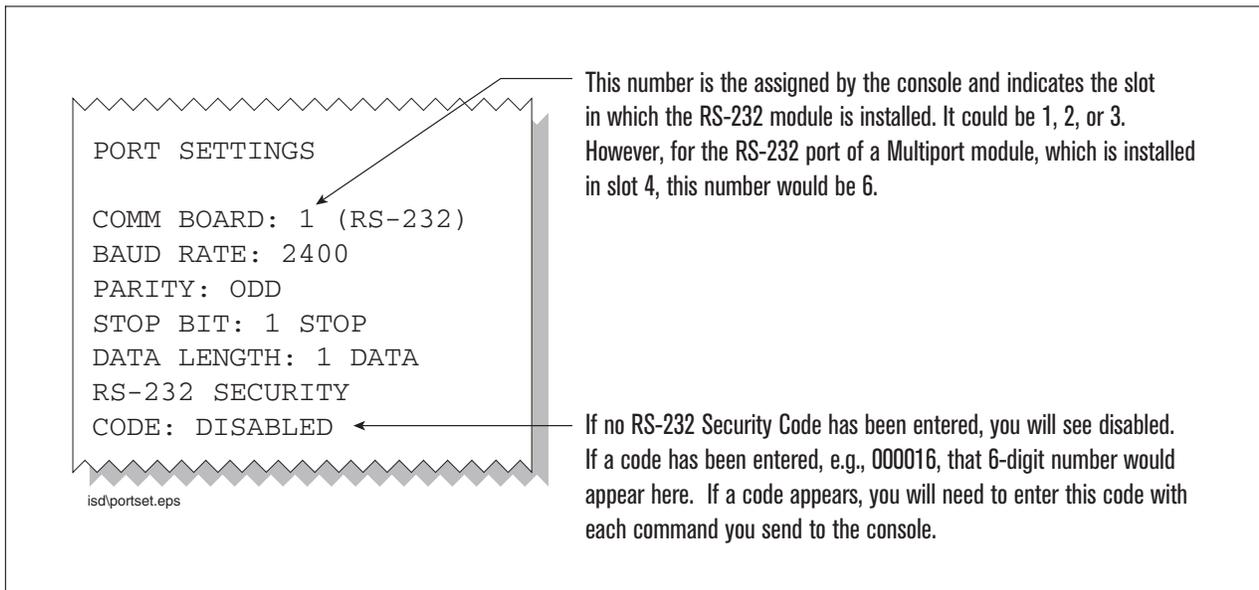

Figure 11. Console comm port settings printout example
- d. Press the PRINT key to printout the port settings for all communication modules installed in the console. Figure 11 shows an example port settings printout with the RS-232 module installed. Using the console port settings in the example below, your HyperTerminal 'Port Settings' window entries would be Bits per second - 2400, Data bits - 7, Parity - None, Stop Bits - 1. For the 'Flow Control' entry select None. Click OK.